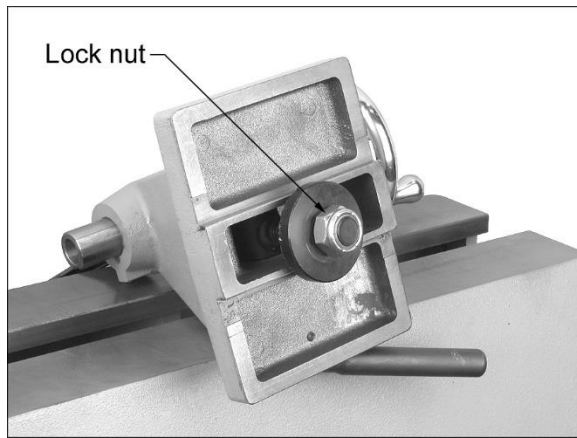

Figure 8-3: cam adjustment
If headstock, tailstock or tool rest base does not properly tighten down against bed when locking handle is tightened, adjust as follows. Figure 8-3 uses tailstock as example.
2. Turn tailstock on its side, and tighten lock nut with a wrench. See Figure 8-3.